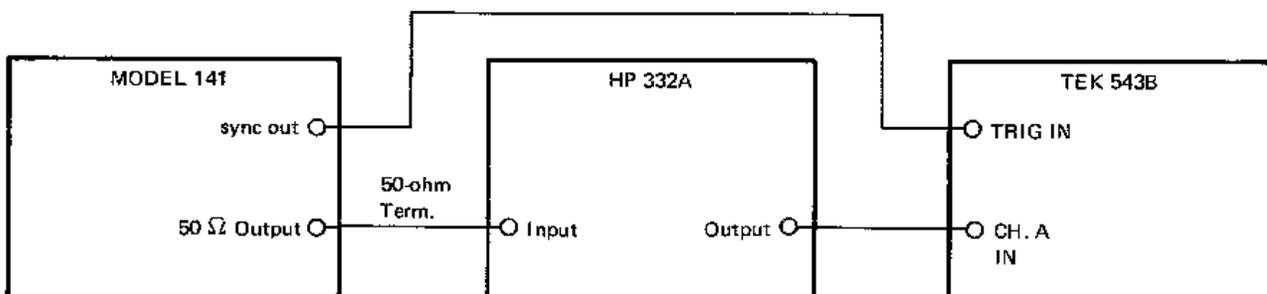

Figure 4-2. Distortion analysis test setup.
- Connect the Model 141 and oscilloscope to the distortion analyzer as shown in Figure 4-2.
9. Reconnect the distortion analyzer as shown in Figure 4-2. Reset the *freq Hz* dial to .5.